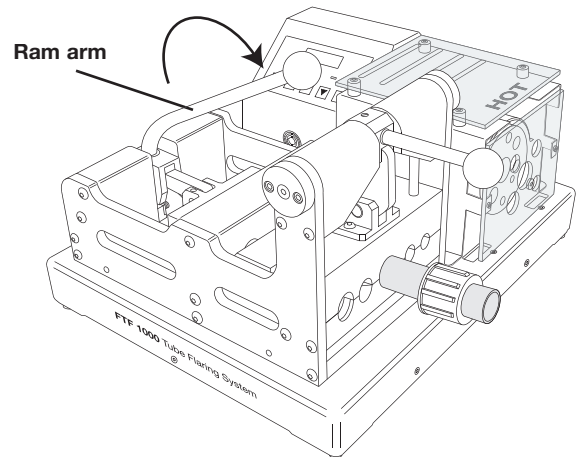

Fig. 10
3. Quickly move the **ram arm** completely forward until it locks into place. The timer will start automatically once the arm is completely forward. After the cooling time has been reached an audible alarm will sound and the "Cooling Cycle Complete" indicator will blink. See Fig. 10.